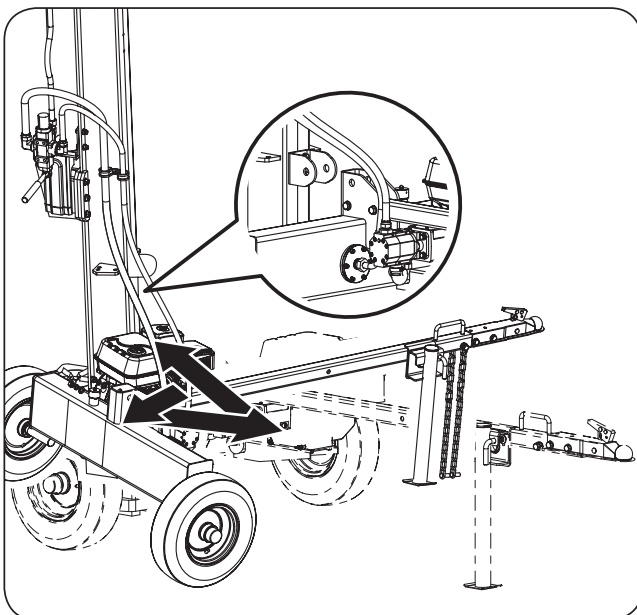

Figure 7a
1. Make sure a helper holds on to the beam to keep it from falling. Reposition the beam and reservoir so the back of the tank is facing the vertical beam as shown in **Figure 7a**.